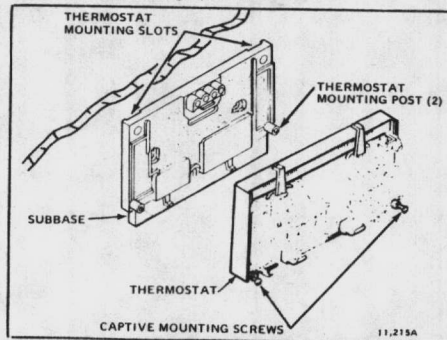

Fig. 11—Mounting thermostat on subbase.
5. Align the two captive mounting screws in the thermostat base with the posts on the subbase (Fig. 11). Tighten both screws. DO NOT OVERTIGHTEN SCREWS or damage to subbase posts may result.